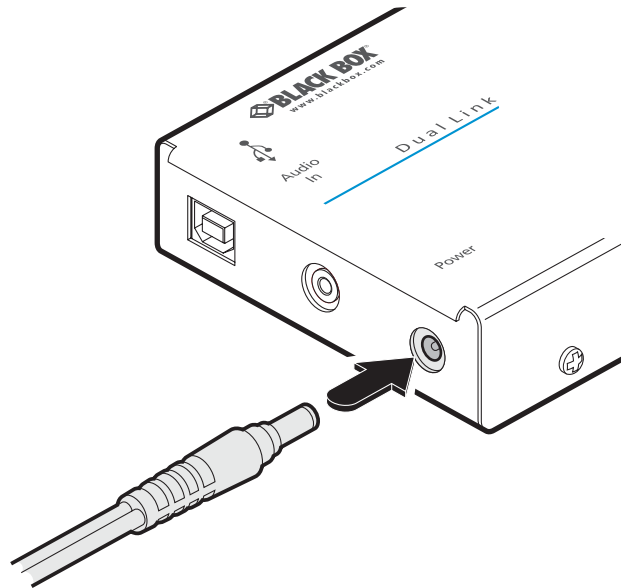

Figure 3-7. Attaching the power adapter connection to the local module
- 1 Connect the output lead of the supplied power adapter to the socket labeled '**POWER**' on the local module as shown in Figure 3-7: